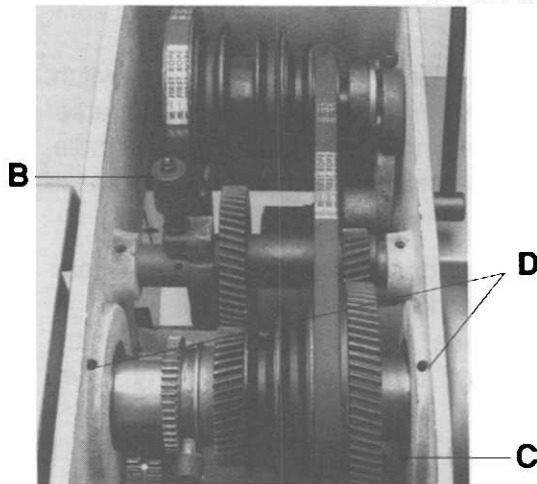

Figure 7
2. "B" in Figure 7 is the *back gear engagement pawl*. This lever engages the back gearing on the main spindle gears. Pull up on the pawl to disengage it, then pull it toward you to engage the back gears.
3. "C" in Figure 7 is the *back gear spindle lock*. In normal operation, the driven spindle pulley and the first back gear are connected by a pin. However, if speeds within the range of back-gearing are selected, this first back-gear must be disengaged or the spindle will lock. Unlock this back gear by unscrewing the large fastener on the gear. When you are finished, don't forget to engage the lock.
4. "D" in Figure 7 are *oil holes*. Obviously, these aren't controls, but this is where shaft lubrication takes place for the headstock group.